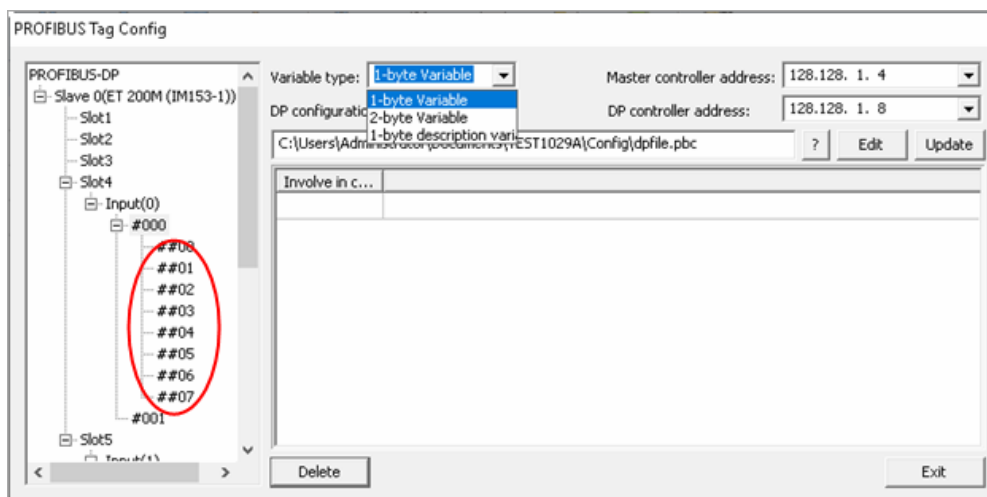

Figure 4-35 Tag configuration
- When choosing the "1-byte variable", there will generate eight tag variables, as shown in Figure 4-35. You can configure the eight tags one by one.